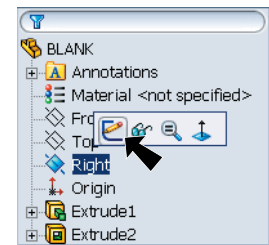

Fig. 12
Step 1. Click **Right** (plane) in the Feature Manager and click **Sketch**  from the Content toolbar, **Fig. 12**.